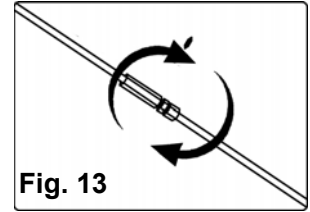

Fig. 13
After long time using, or when the belts are adjusted or replaced, the control wires must also adjusted See Figure 13.
- The auger are secured to the spiral shaft with two shear pins and cotter pins. If the auger should strike a foreign object or ice jam, the snow thrower is designed so that the pins may shear. See Figure 13.